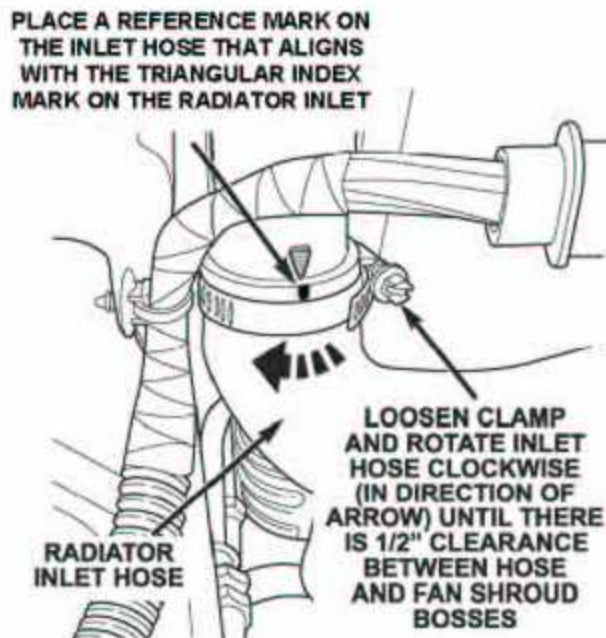

Figure 3
4. Place a reference mark at the index arrow on the radiator inlet nipple (Figure 3).
6. Rotate the radiator inlet hose clockwise (toward the left front fender) until there is $\frac{1}{2}$ " (12.5 mm) clearance between the radiator inlet hose and the radiator fan shroud bosses (Figure 3).